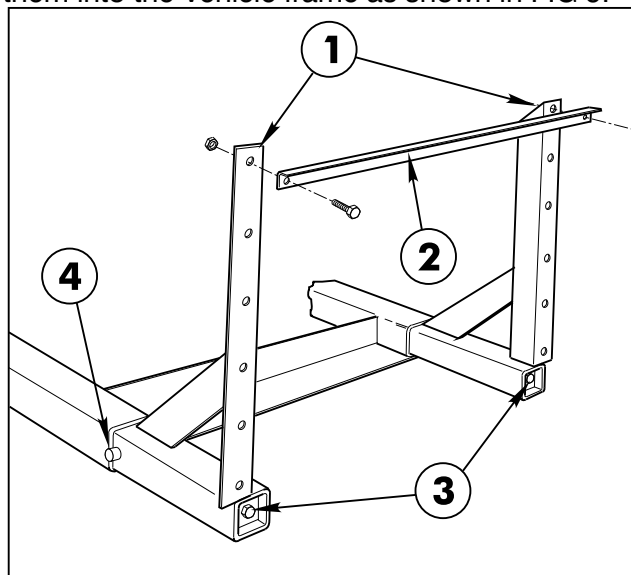

FIG. 9
1. Apply a heavy coating of grease to the tubes of the two Boom Mount Assemblies and insert them into the Vehicle frame as shown in FIG 9.